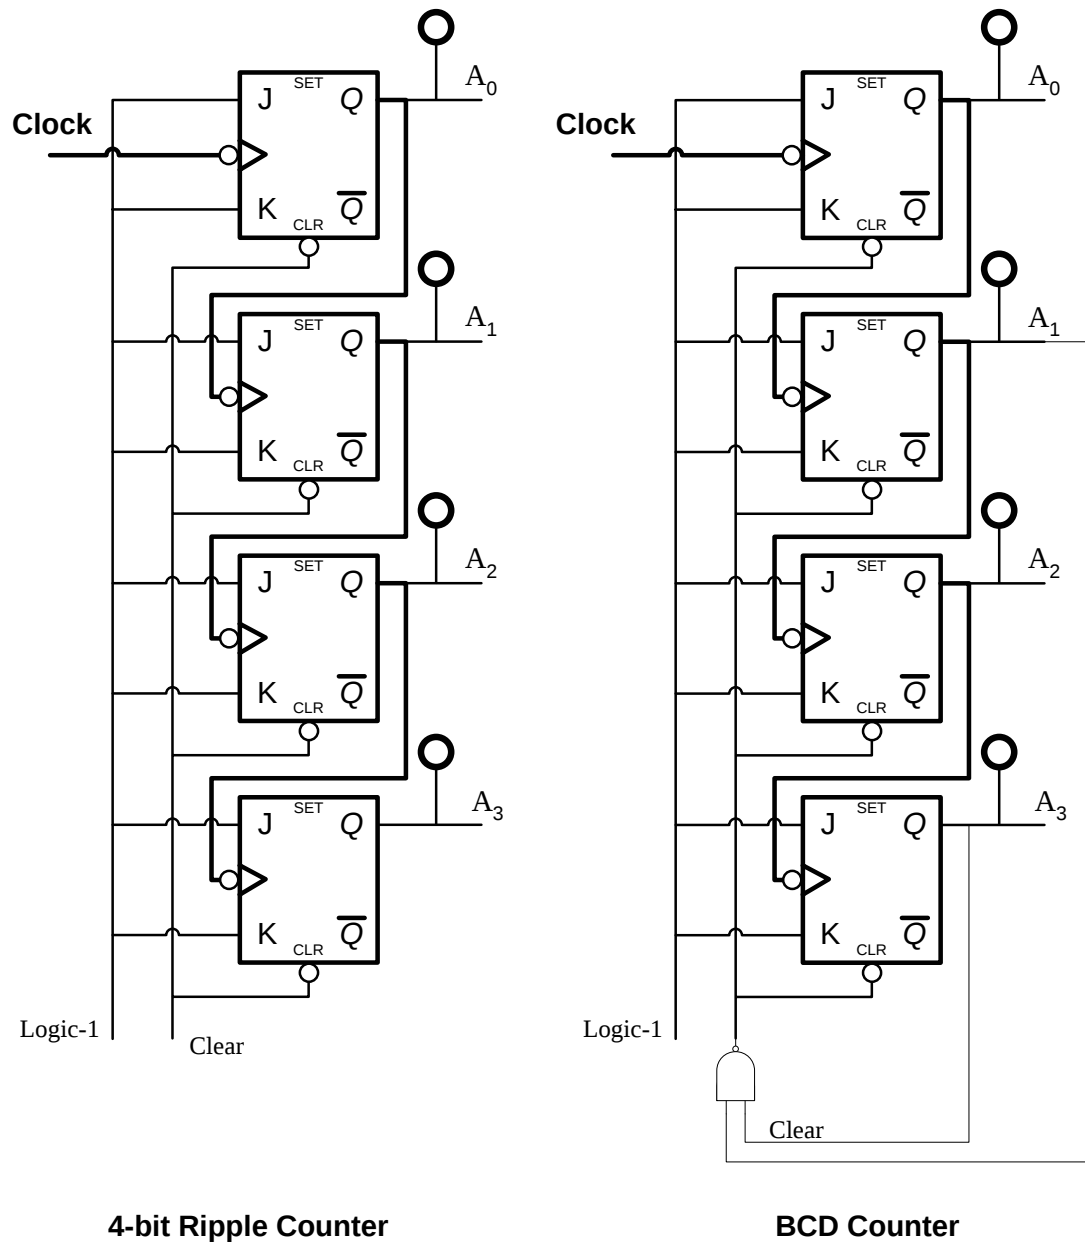

Figure 5: JK FF used in counters
Construct a 4-bit ripple counter and a BCD counter as shown in Figure 5.
1. Connect the 4-bit ripple counter (as shown in Figure 5) on the proto-board using two 7476 ICs.
- g. Connect the output of the first flip-flop to the **Clock** input of the second, the output of the second flip-flop to the **Clock** input of the third, and the output of the third flip-flop to the **Clock** input of the fourth (as shown for the 4-bit ripple counter in Figure 5).
4. Connect the output of the second and fourth flip-flop to the inputs of a 2-input NAND gate as shown in Figure 5.